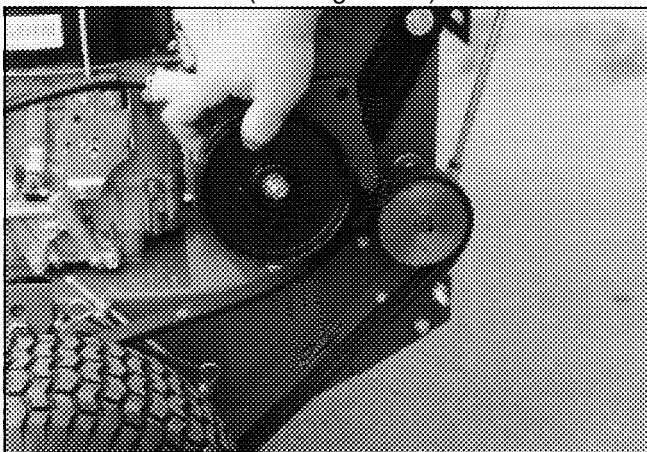

Figure 22
- Lift up on the idler bracket with one hand while removing the belt from the jackshaft pulley with the other hand. (See Figure 22.)